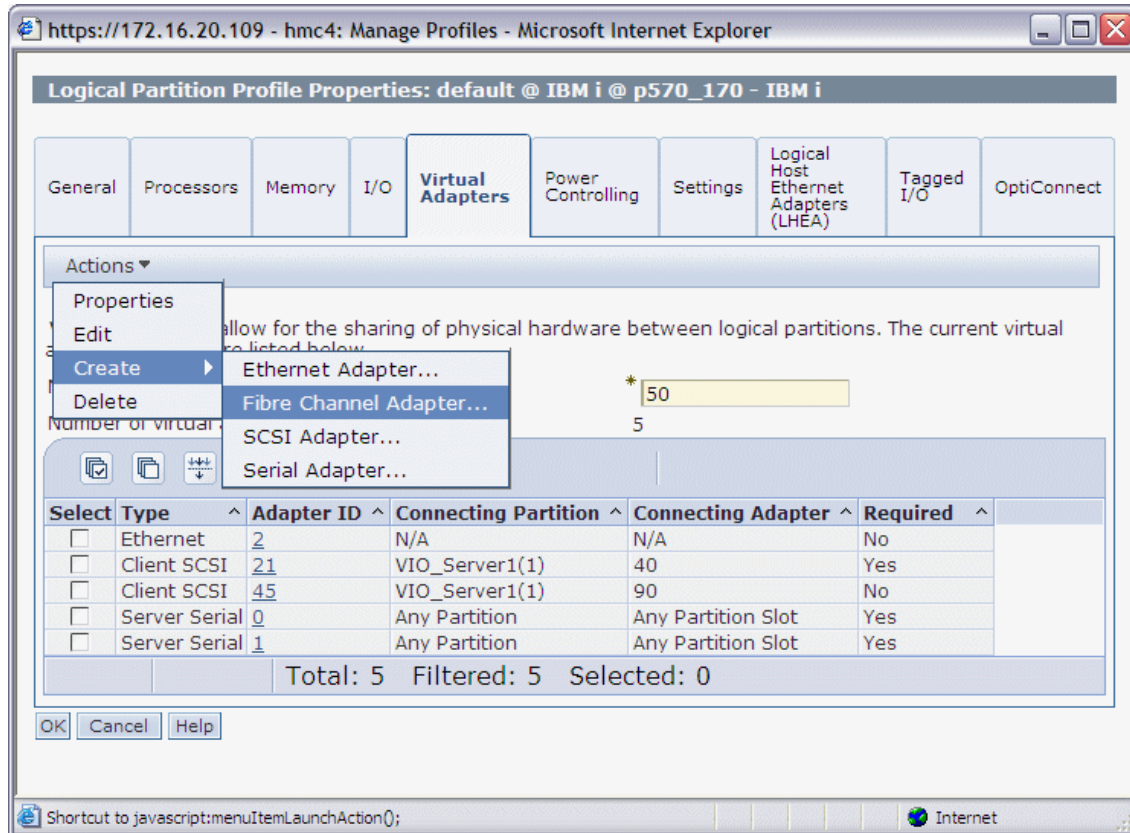

Figure 16-20 Create Fibre Channel client adapter
- b. Click the profile name to edit and select the **Virtual Adapters** tab in the Logical Partition Profile Properties dialog, then to create a virtual Fibre Channel client adapter, select **Actions** → **Create** → **Fibre Channel Adapter** as shown in Figure 16-20.